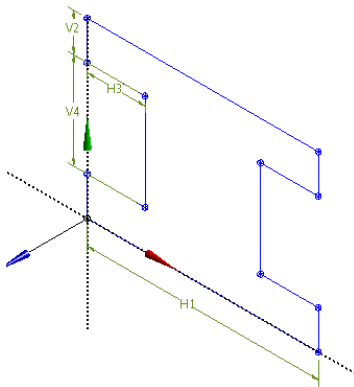

Figure 3-32 The Isometric view of the sketch
1. Click on the ISO ball placed at the bottom right in the **Graphics** window; the view is changed to Isometric, as shown in Figure 3-32.